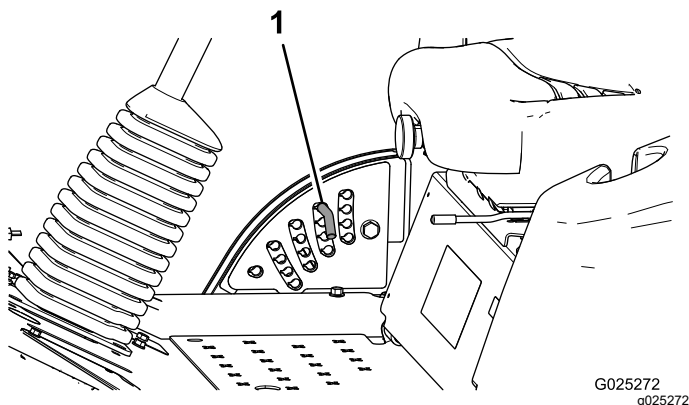

Figure 4
2. To adjust, rotate the stop pin until the nub on it lines up with the slots in the holes in the height-of-cut bracket and remove it (Figure 4).
3. Select a hole in the height-of-cut bracket corresponding to the height of cut desired, insert the pin, and rotate it down to lock it in place (Figure 4).
Note: There are 4 rows of hole positions (Figure 4). The top row gives you the height of cut listed above the pin. The second row down gives you the height listed plus 6 mm (1/4 inch). The third row down gives you the height listed plus 12 mm (1/2 inch). The bottom row gives you the height listed plus 18 mm (3/4 inch). For the 127 mm (5